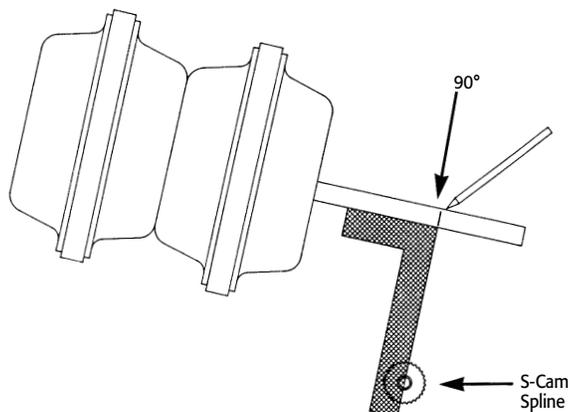

Figure 12 – Marking the Push Rod
3. Using a square, mark the universal push rod at the 90 degree position when the square edge is centered in the end of the S-Cam (see fig. 12). Make sure the push rod is centered in the chamber and not cocked before marking the push rod.